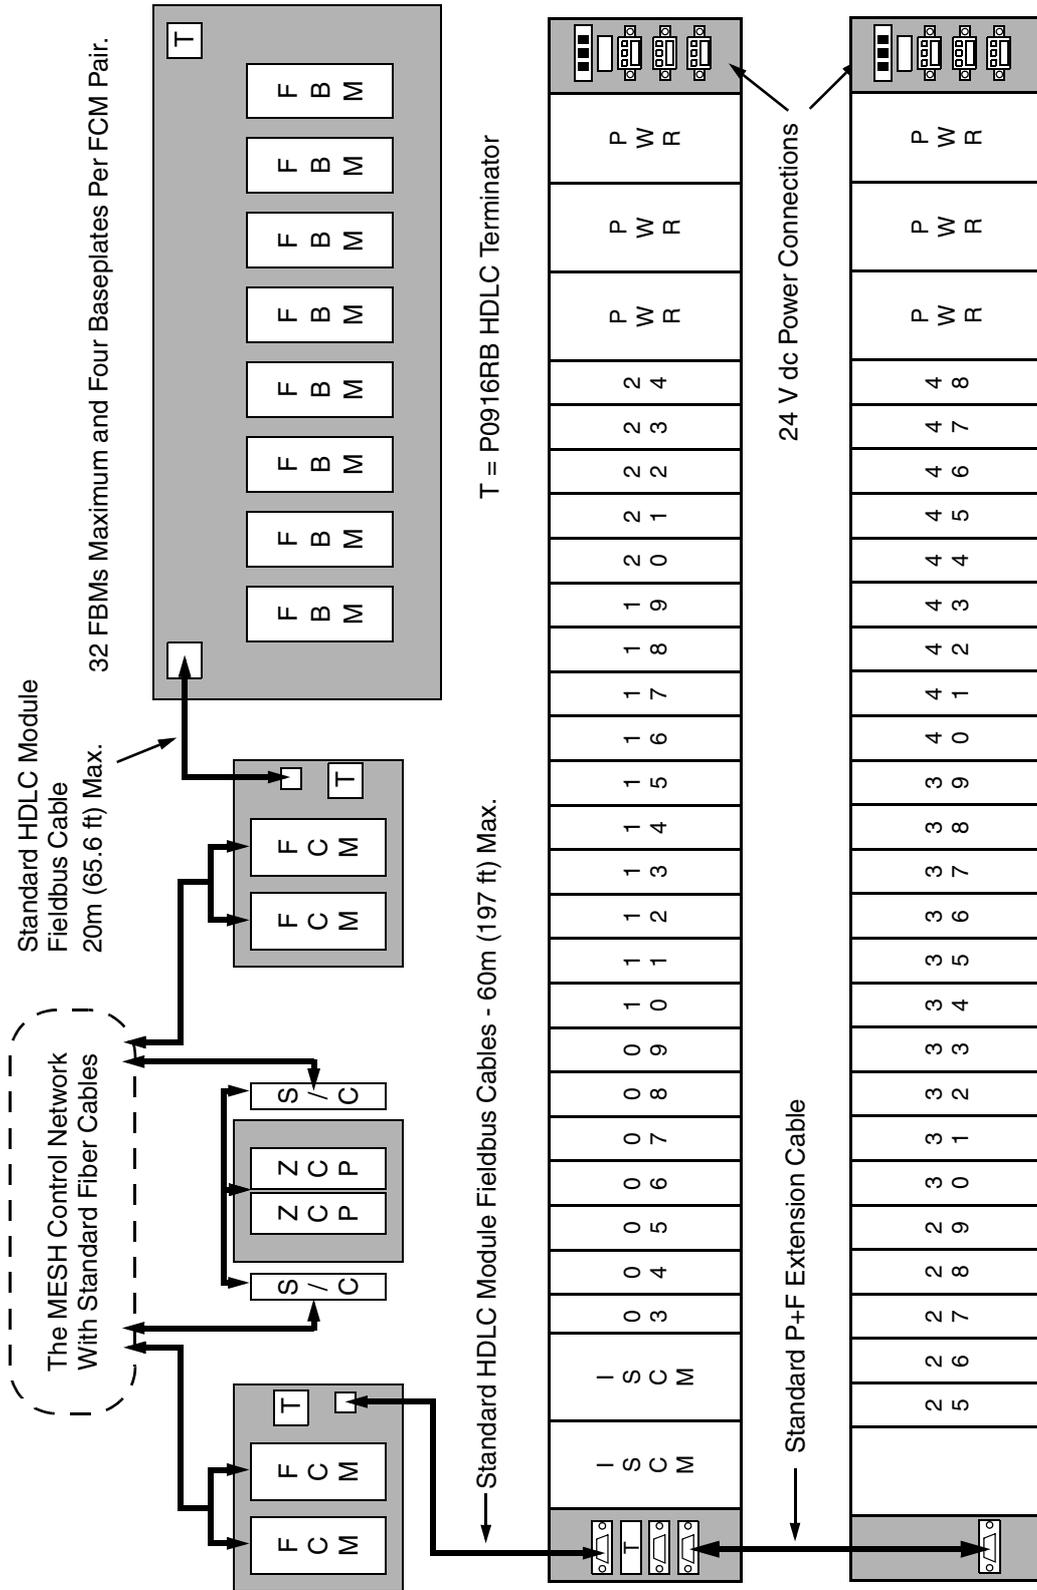

Figure A-2. Zone 2 (LB-Style) ISCM/FBM Configuration with ZCPs and FCM100E/Ets
- ◆ Figure A-2 “Zone 2 (LB-Style) ISCM/FBM Configuration with ZCPs and FCM100E/Ets” on page 133